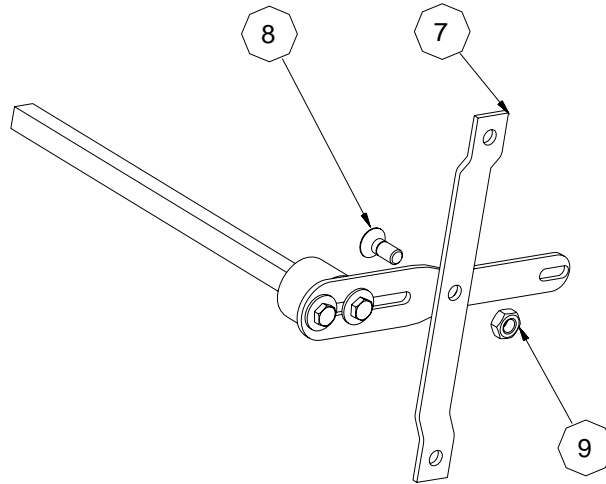

Figure. 3
- 3. GOVERNOR LINKAGE PLACING:** One of the screwed arms must be fixed to the governor linkage (7), through the M10 x 25 DIN 7991 8.8 screw (8) and the M10 DIN 985 Autoblock nut (9) – Fig. 3 –.